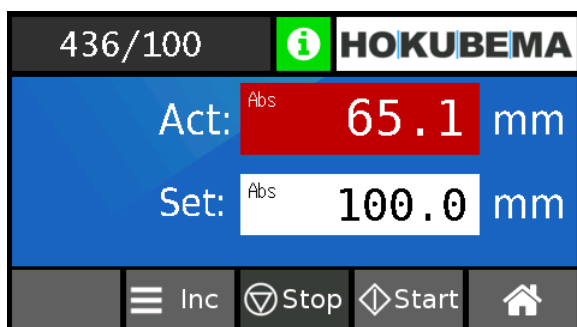
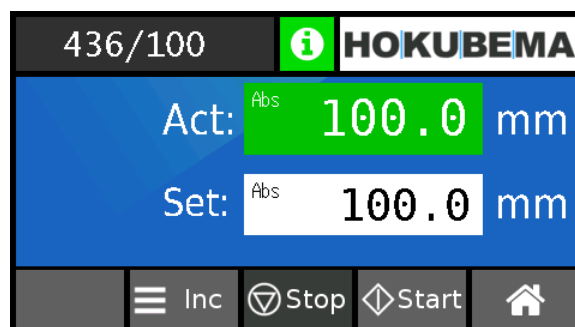

Figure 28: Setpoint input in absolute mode
Figure 29: Position reached in absolute mode
- Absolute mode is active when the "**Inc**" button is visible in the bottom line of the screen and "**Abs**" appears in the input fields in the top left-hand corner (see ⇒ Figure 28 and ⇒ Figure 29).
- Tap on the field "**Set:**" and enter the desired setpoint, e.g. **100.00 mm** (⇒ Figure 28).
- The "**Act:**" field is highlighted in red until the setpoint value "**Set:**" is reached (see ⇒ Figure 28).
- The "**Act:**" field changes to green as soon as the target position "**Set:**" is reached (see ⇒ Figure 29).